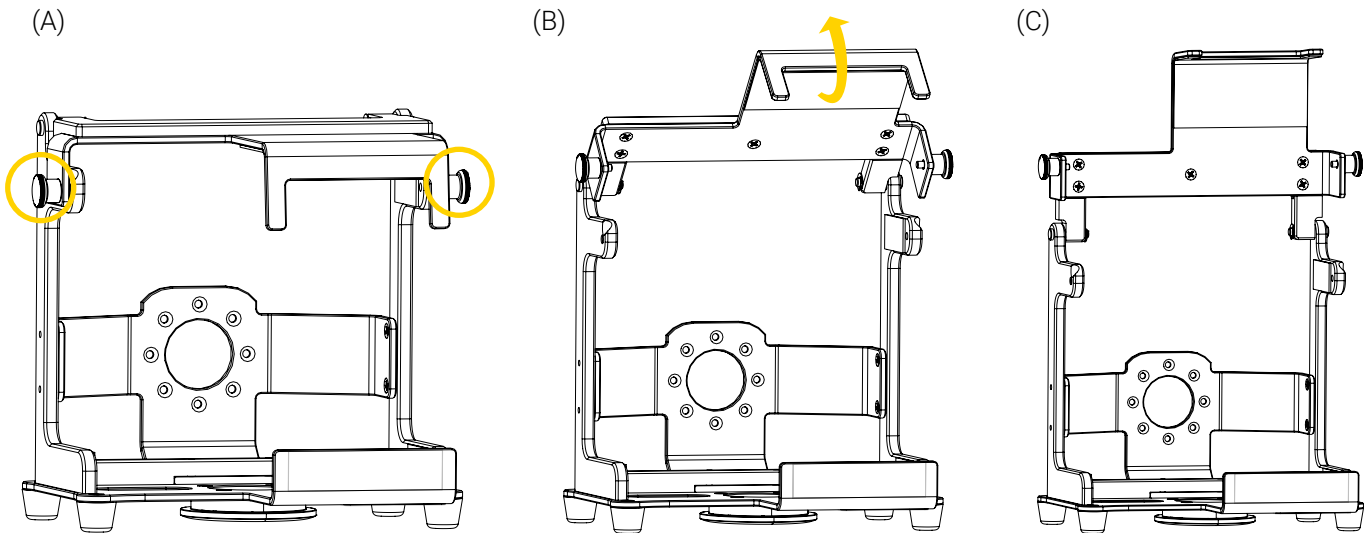

Figure 6: Removing the Plum 360 from the Bracket Pro Serie 221
2. Pull the 2 quick release mechanism knobs to disengage the top (Figure 6 A), then lift the top upwards until it has reached its final position (Figure 6 B and Figure 6 C).